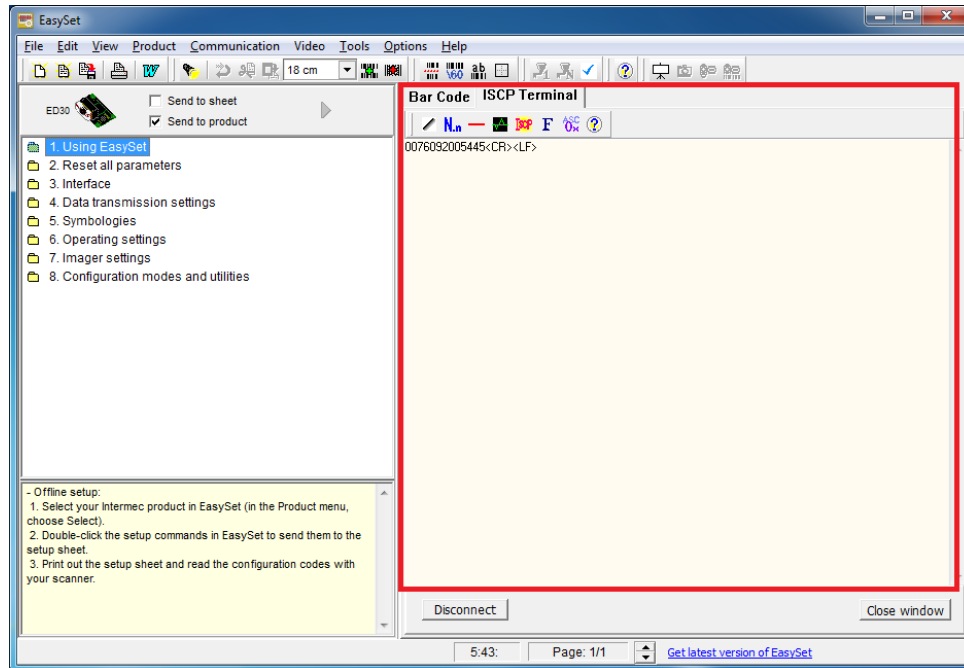

Figure 3-18: Barcode Information Display Area
Step 9: Scan a barcode and the barcode number will be displayed on the right side (Figure 3-18).